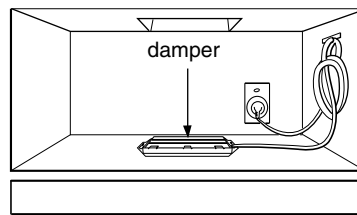

Figure 31
6. Roof vented installation: See Figure 31